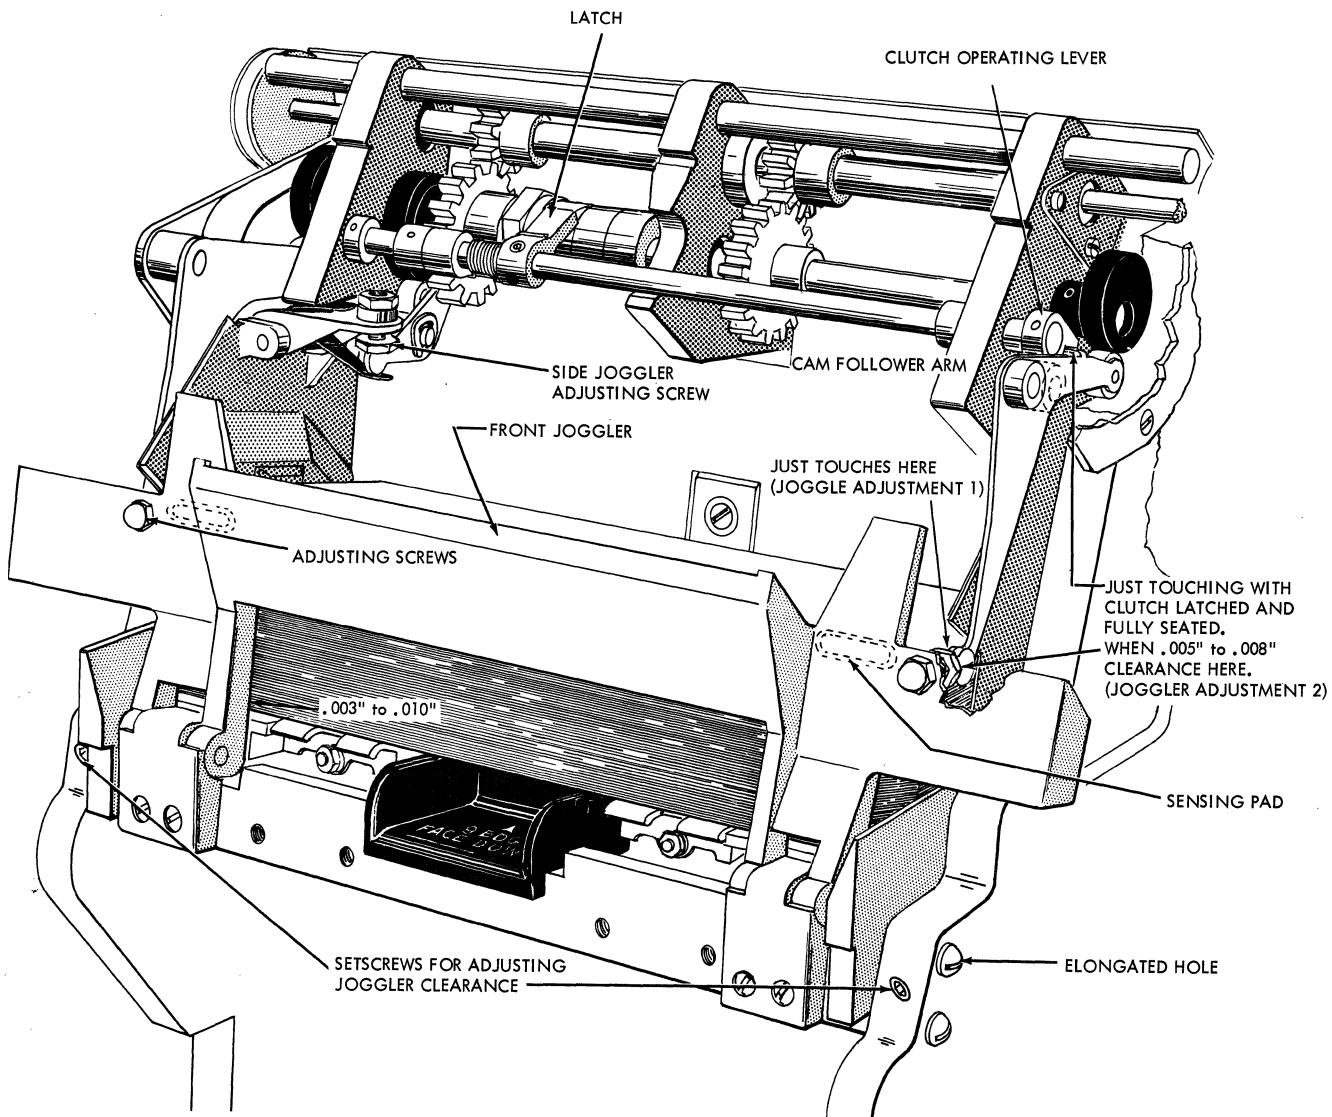

Figure 2-10. Lower Magazine Throat
1. Turn the file feed drive until the front joggler cam followers are on the low dwells of the cams. Fill the hopper to just below the sensing pads on the front joggler and close joggler. Set the adjusting screws on the joggler to just touch the operating arms (Figure 2-10). Under these conditions there should be $.003''$ to $.010''$ clearance between the cards and the lower end of the joggling surfaces (the lower end of the joggling surfaces is in line with the top of the card feed knife posts). This clearance is obtained by adjusting the hopper post mounting bar with the set screw (Figure 2-10). The hopper posts will now have to be adjusted (Refer to Hopper Adjustments).
cam follower against the cam, and continue to operate the unit. Stop when $.005''$ to $.008''$ clearance appears between the cam follower arm and the adjusting screws. Loosen the clutch operating lever on its pivot shaft and fully seat the clutch latch. With the cam follower against the cam, position the clutch operating lever so that it just touches the turned-over ear on the cam follower arm (Figure 2-10). Tighten the set screws in the clutch operating lever, securing it to its shaft.